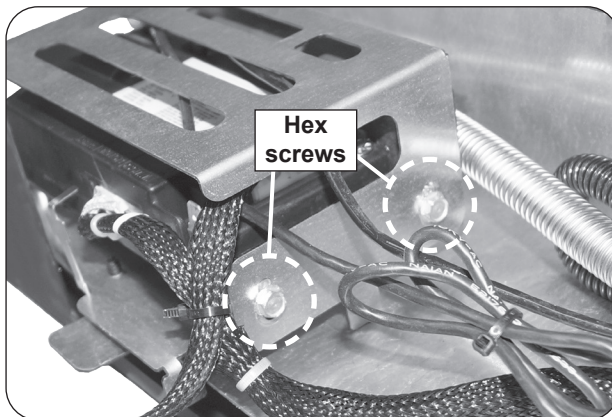

Fig. 1-2 Remove two hex screws
1. Using a $\frac{5}{16}$ " nut driver, remove the two hex screws found on the side of the control-module heat shield (see Fig. 1-2).